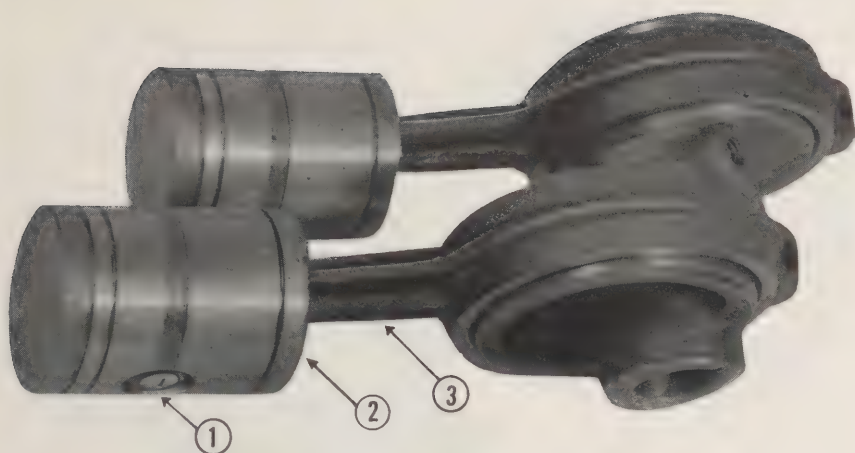

Figure 52. Marking of compressor parts for reassembly.
- (11) Remove the pistons, connecting rods and eccentric as an assembly as indicated in fig 52.
- (12) If the original parts are to be used, mark the skirt of the piston, wrist pin end plug, connecting rod and eccentric with the edge of a file. This is for the purpose of identification and must be followed during reassembly in order to reinstall the same parts to their original location. MARK 1 SET ONLY AS ILLUSTRATED IN FIG 52.
- (4) Assemble the connecting rods on the eccentric as illustrated in fig 52. Place refrigerant oil on the eccentric bearing surfaces (fig 50). Be sure the oil holes (item 5) on the connecting rods face toward the oil level gage plug hole (item 4) and the boss (item 3) of the eccentric faces towards the thrust end (item 2) of the compressor.